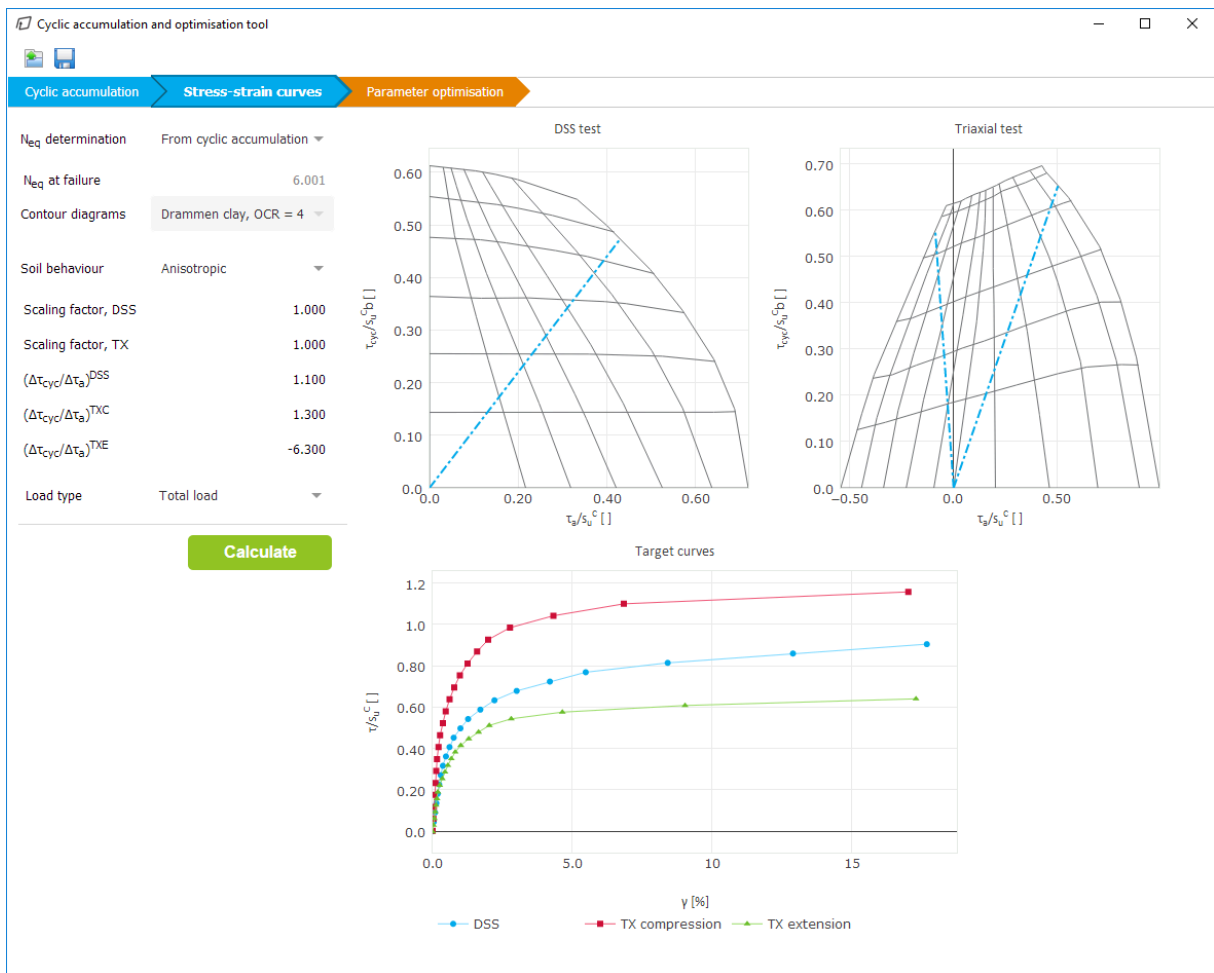

Figure 11-7: Stress-strain curves for total load
DSS and triaxial contour diagrams are plotted together with stress paths described by the cyclic to average ratios (Figure 11-7 (p. 177)). Notice that the shear stresses are normalised with respect to the static undrained shear strength in compression. The extracted stress-strain curves are plotted below the contour diagrams.
- 6 Click **Calculate** to produce the corresponding normalised stress-strain curves below the contour diagrams. See Figure 11-7 (p. 177) for the outcome.